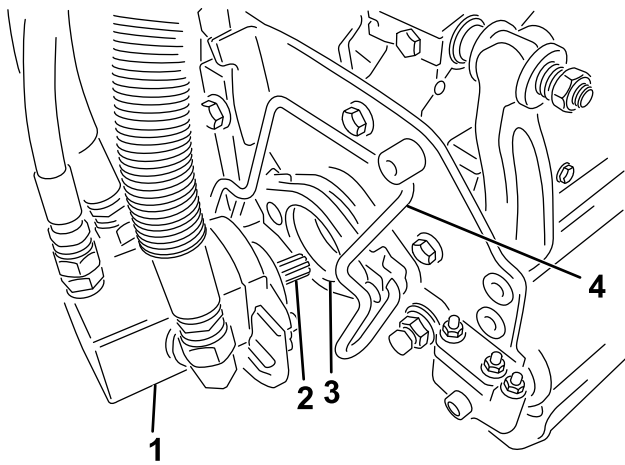

Figure 45
5. Coat the spline shaft of the cutting unit motor with clean grease (Figure 45).
6. Insert the motor into the left side of the cutting unit (as viewed from the operator's position) and pull the motor retaining bar on the cutting unit toward the motor until you hear a click from both sides of the motor (Figure 45).